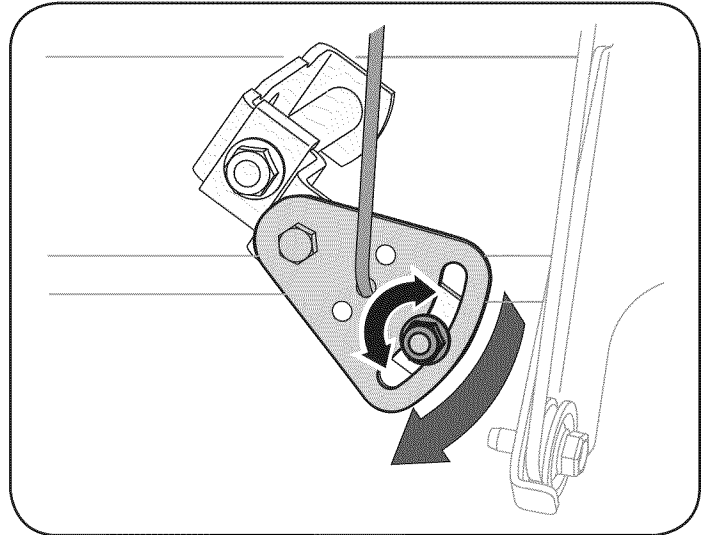

Figure 19
2. Loosen the hex nut on the shift cable index bracket. See Figure 19.